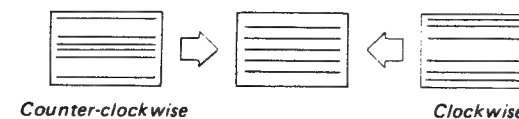

Fig. 29-9
2. Adjust V. HEIGHT by turning DA board RV32 as shown in Fig. 29-9.